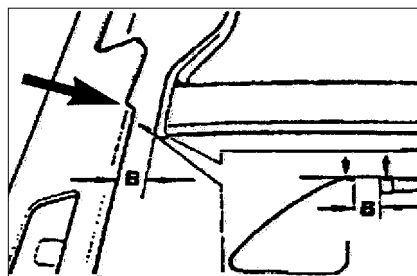

Figure 11
- Check for proper clearance of the top folding bow to the side rails of the Cabriolet top frame (dimension "B" in Figure 11). Dimension "B" should be 5 to 7 mm. If less, it is necessary to rework the side rails in the area indicated by the arrow in Figure 11 to gain clearance for the folding bow.